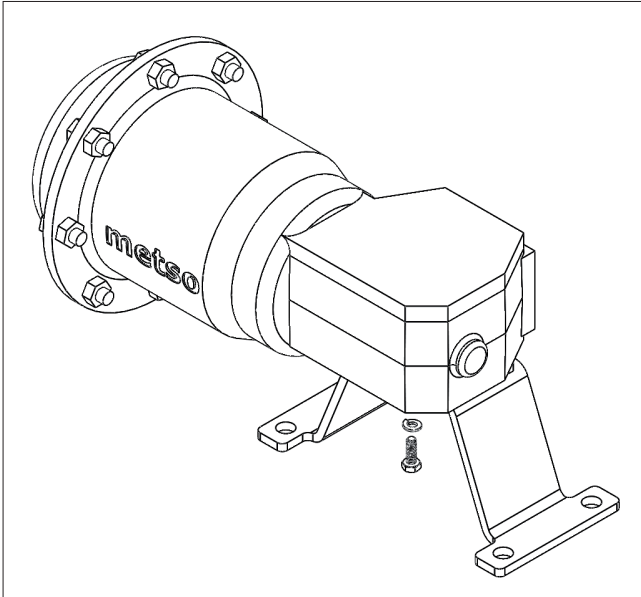

Figure 7.
8. A sealant is required between the seat tail and the body as shown in **Figure 7**. The valve uses PTFE paste sealant. This is installed in accordance with the following steps:
9. Verify the disc is in the level position and install the seat (5) and insert (2) (See **Figure 7**).